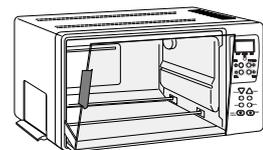

fig. 1
- **Always leave the door open to the stop position** (as shown in the figure 1).
When the function and the temperature controls are set to BROIL only the top element heats at full power. Be sure to leave door open to stop position only, as shown in the figure 1 on page 14. Set the broiling rack in the drip pan on the wire shelf in position 2 so that the food is few inches from the top element. If necessary, the broiling rack can be inverted in the pan. The broiling rack shields the fat drippings from direct heat, reducing spattering, smoking and possible flaming. Always use the shallow pan when broiling any fatty foods.